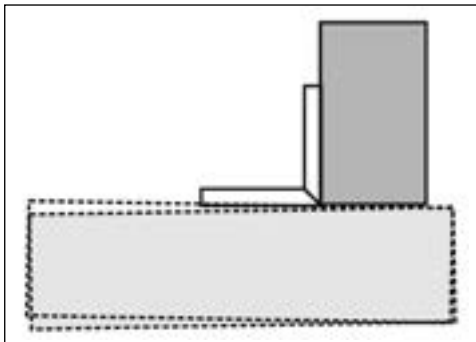
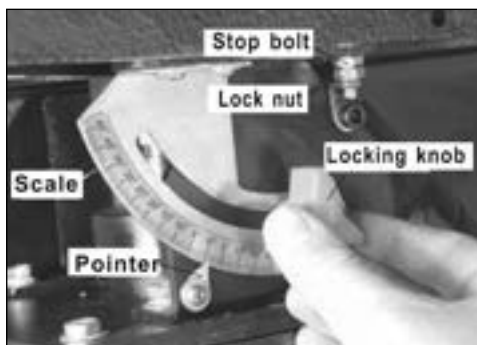

Fig. 7
Fig. 8
6.5 Aligning the Tabletop (Fig 7 – Fig.8)
- Use a suitable 90° square and place on the tabletop surface, then move the square with the bobbin confirming that it measures 90° accurately – see Fig.7.
- Locate the pointer and scale and untighten the pointer screw. Align with the 0° position on the scale and re-tighten the screw – see Fig.8.